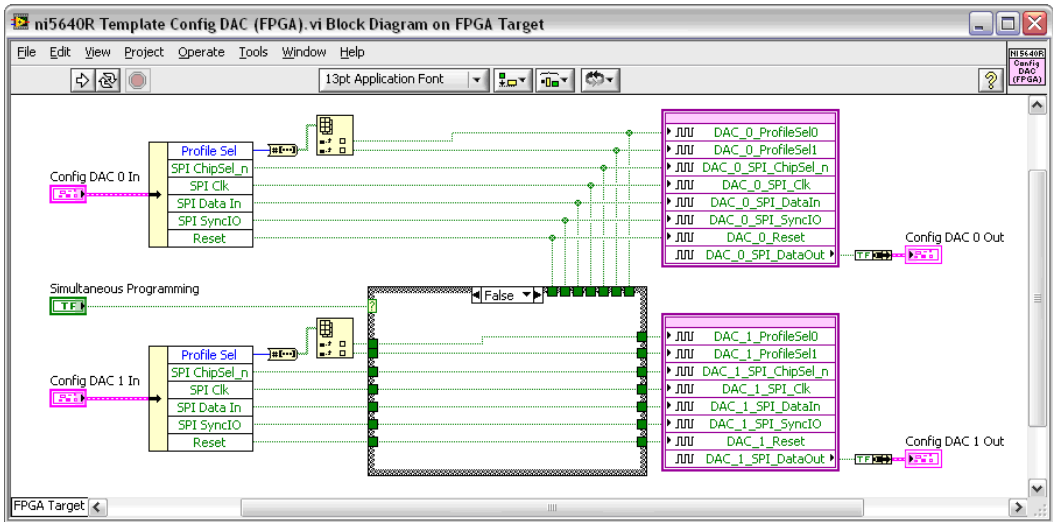

Figure 8. ni5640R Template Config DAC (FPGA) VI Block Diagram
- Open these subVIs and open their block diagrams. Notice the I/O Nodes—these are required to configure the ADCs and DACs. You can read from and write to registers in the ADCs and DACs using these nodes. The I/O Nodes are wired to controls and indicators that are written to or read from the calling VI. The ni5640R Template Config DAC (FPGA) VI block diagram is shown in Figure 8.